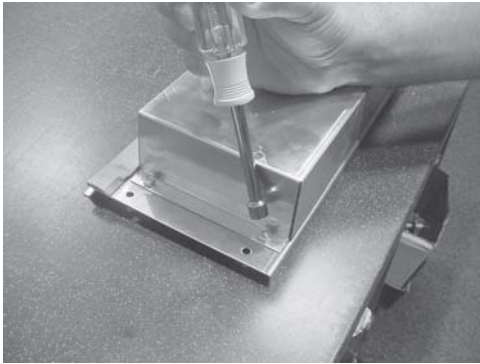

Figure 3-10
3. Using 5/16" socket, remove the 4 nuts securing the control cover and remove cover. Figure 3-10.